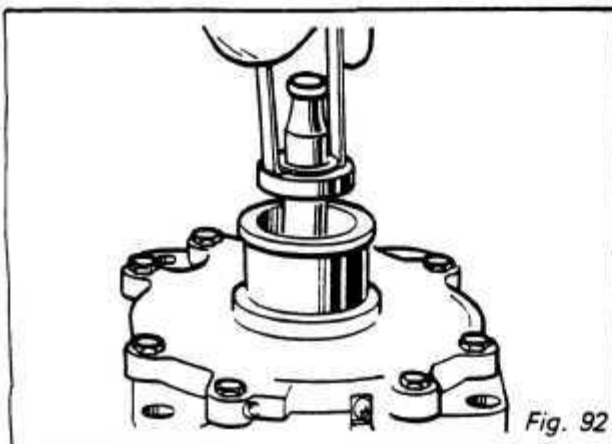

Fig. 92
Step 6 — Coat seal retainer with clean refrigerant oil. Use tongs to install. Press lightly against seal. *Fig. 92*